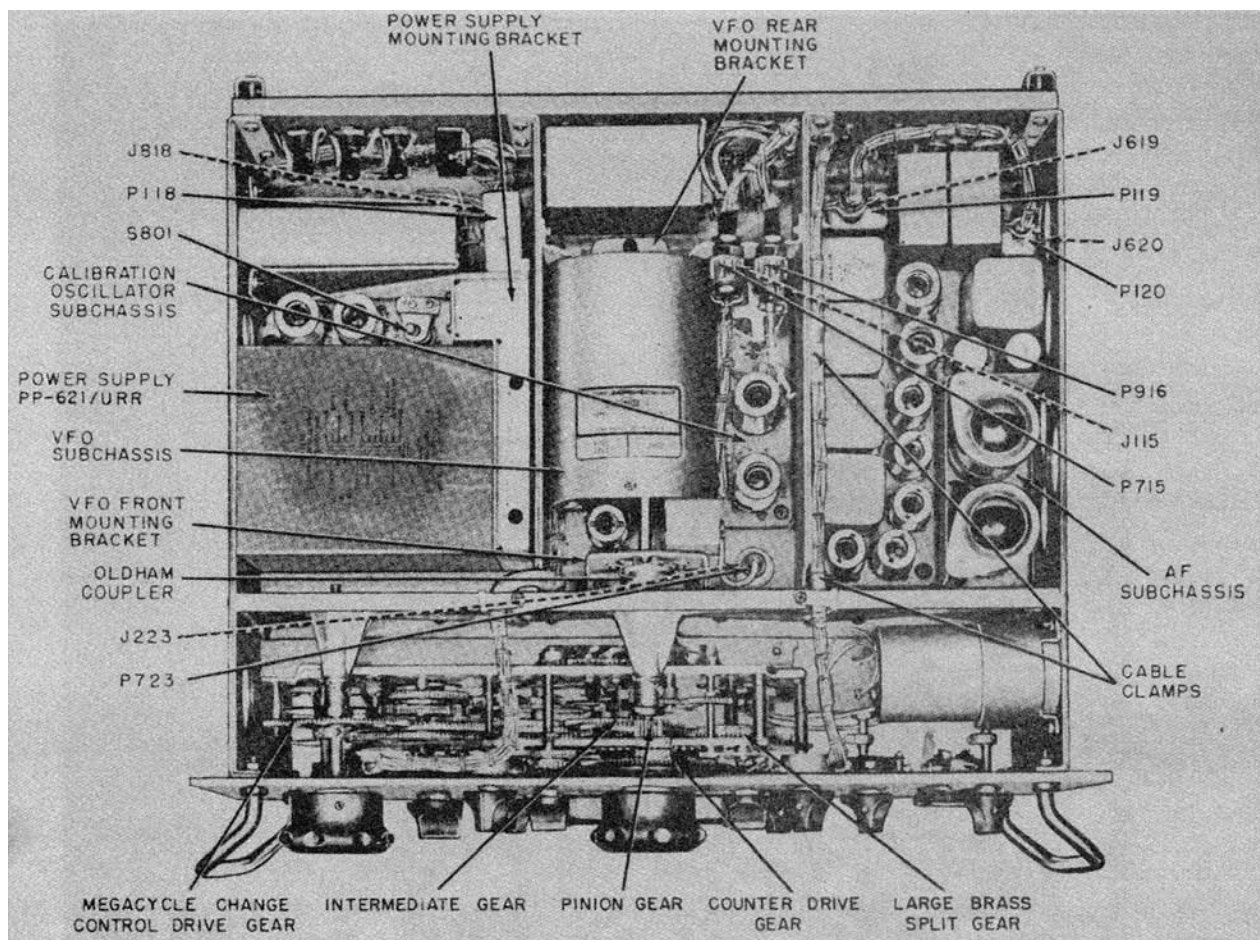

Figure 42. Receiver, bottom view, dust cover removed.
## 62. Power Supply PP-621/URR (fig. 42)
- (1) Carefully lower the subchassis into the receiver.
- (2) Tighten the green captive screw in the corner of the subchassis near tube V802.
- (3) Replace and tighten the four green 7/16-inch screws that secure the power transformer to the side of the main frame. Use screws only of this size.
- (4) Tighten the two hidden captive screws through the holes in the power supply mounting bracket (fig. 42).
- (5) Reconnect large connector P118 and J818.
- (6) Replace the bottom dust cover.
## 63. Vfo Subchassis (fig. 42)
- (1) If the position of the vfo tuning shaft has been disturbed while the subchassis was removed from the receiver, or if a new vfo is to be installed, synchronize the shaft as described in paragraph 73.
- (2) If the position of the shaft has not been disturbed, place the floating disk on the flange of the vfo drive shaft. Position the ridge on the coupler flange of the vfo tuning shaft 90° from that of the flange on the drive shaft, and carefully insert the vfo subchassis into place. Tilt it slightly to clear the receiver frame.
- (3) Tighten the three green screws on the subchassis mounting brackets.
- (4) Replace the loading spring on the Oldham coupler.
- (5) Connect P715 to J115 and P723 to J223 (fig. 42). (See the note below.)
- (6) Replace the bottom dust cover on the receiver.
- (7) If the vfo setting has been disturbed, refer to paragraph 73 for synchronization procedures
#### 64. Calibration-Oscillator Subchassis (fig. 42)
#### 65. At Subchassis (fig. 42)
- (1) Remove the bottom dust cover from the receiver.
- (2) Disconnect plugs P119 and P120 (fig. 42).
- (3) Remove the screw from the cable clamp that
- (1) Carefully replace the subchassis by lowering it straight down into the receiver. The front end may have to be tilted slightly.
- (2) Tighten the three green captive screws, one at the front end of the subchassis and two at the rear corners.
- (3) Place the cable in position on the casting; then replace the clamp to secure the cable. Tighten the screw on the clamp.
- (4) Replace and tighten the screw that secures the cable clamp to the side of the af subchassis.
- (5) Reconnect plugs P119 and P120 (fig. 42).
### 70. Adjustment of Calibration Oscillator (fig. 42)